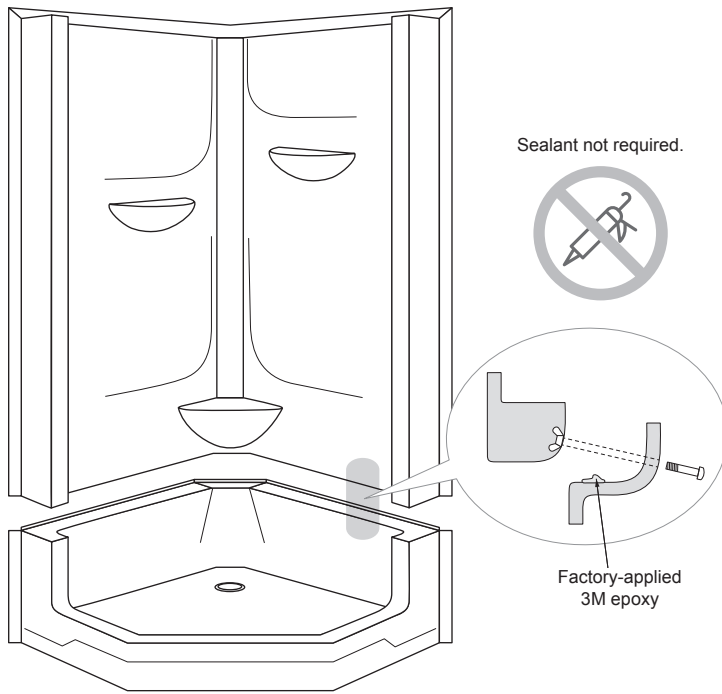

FIGURE 3
2. Sectional units that have been disassembled must be reassembled before the unit is installed. Assemble the unit with the same stainless steel screws that the pieces were originally fastened with. **Do not overtighten. Sealant is not required. (Figure 3)**